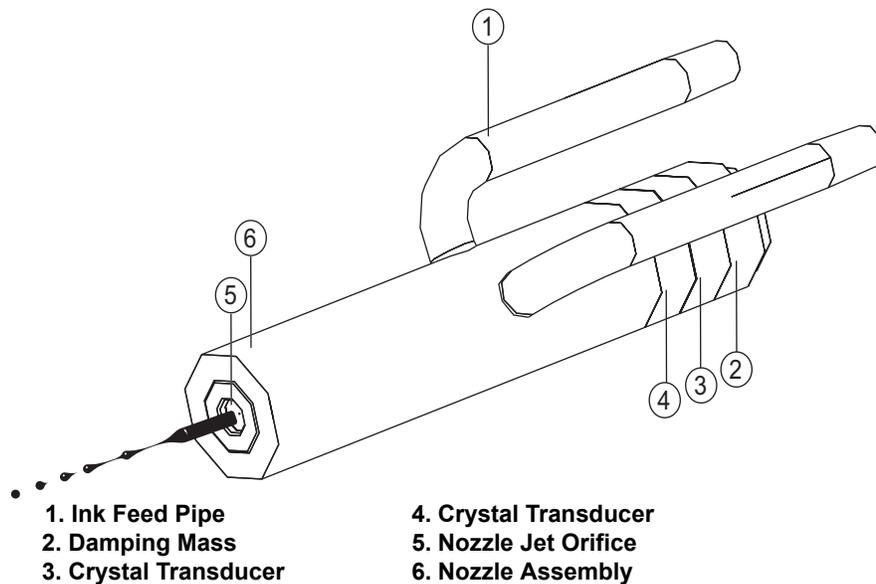

Figure 3-37: Ink Jet Formation
10. An ink stream is formed as the ink is forced out of the nozzle jet orifice (see Figure 3-37).